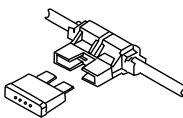

Figure 10
5. Insert 20 amp ATO fuse supplied and seat it firmly in the fuse tap. It can take some pressure to seat. (Fig. 10)